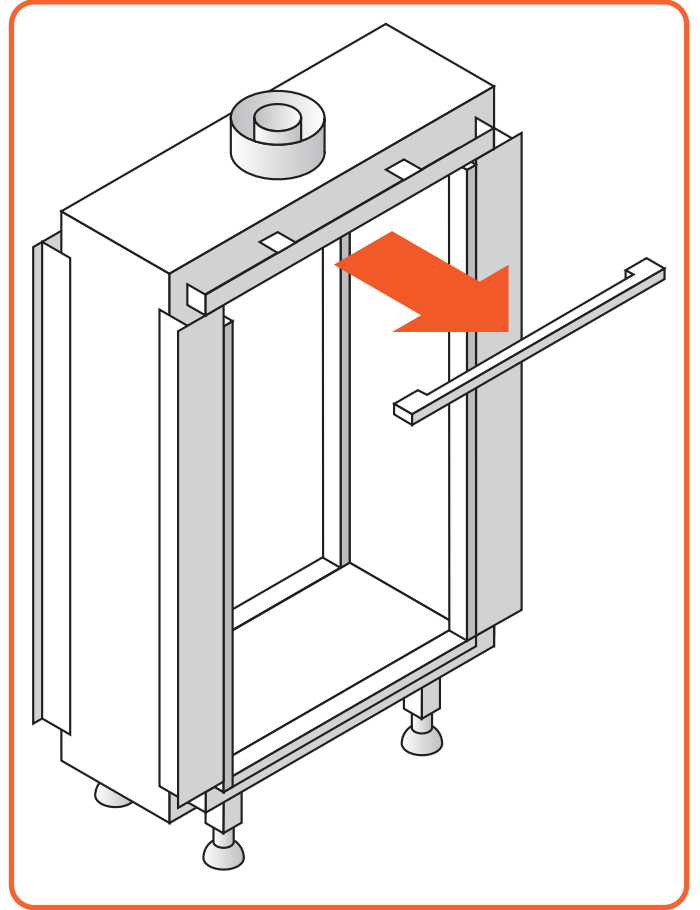

Figure 9.3 | Remove upper trim
- Remove the upper trim, see Figure 9.3